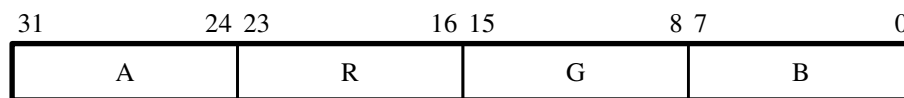

Figure 14. 32-bit RGBA Color Space.
- 32-bit RGBA — This format contains alpha values as well as RGB and uses 8 bits of each color as shown in Figure 14. This mode is defined as 8 bits per symbol and four symbols per beat.